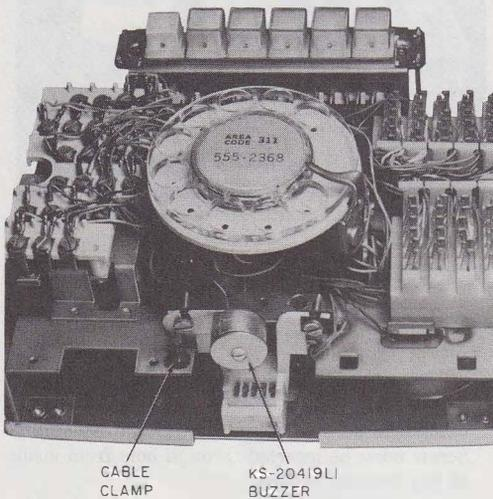

Fig. 8—KS-20419L1 Buzzer Mounted on 851-Type Telephone Set
- (1) Remove sheath to surface of outlet box or bottom of hole in base pan, depending on method of wiring.
- (2) Remove cable clamps. Pinch legs of clamp from front of chassis (Fig. 8).
- (3) Slip one of the clamps provided with set around conductors approximately 9 inches from end of sheath. Add second clamp 2 inches above first.
3.15 Buzzer: The KS-20419L1 buzzer is mounted on an insulated bracket below the dial (Fig. 8). If required, the KS-20419L1 may be replaced by the KS-8109L2 buzzer (14-30 volt ac or dc) which would be mounted using both screws.